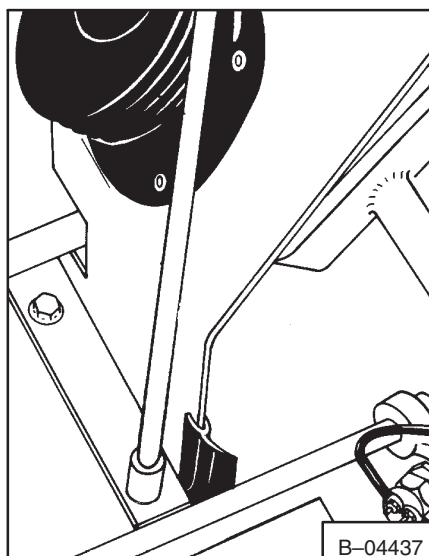

**Fig. 3-3** Removing Front Panel
3. Remove the front panel (Fig. 3-3).
7. Install the center shield and tighten the bolts (Fig. 3-3).